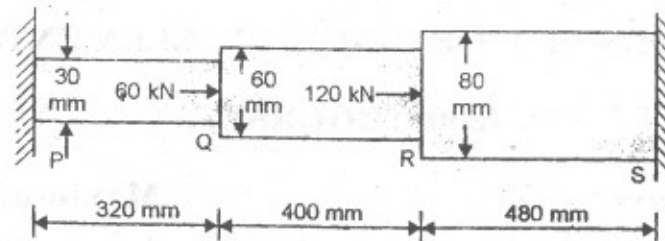

Fig. 1
- (b) A steel circular bar PQRS fixed rigidly at P and S bar is subjected to axial loads of 60 kN and 120 kN at Q and R as shown in Fig. 1. Find the loads shared by each part of